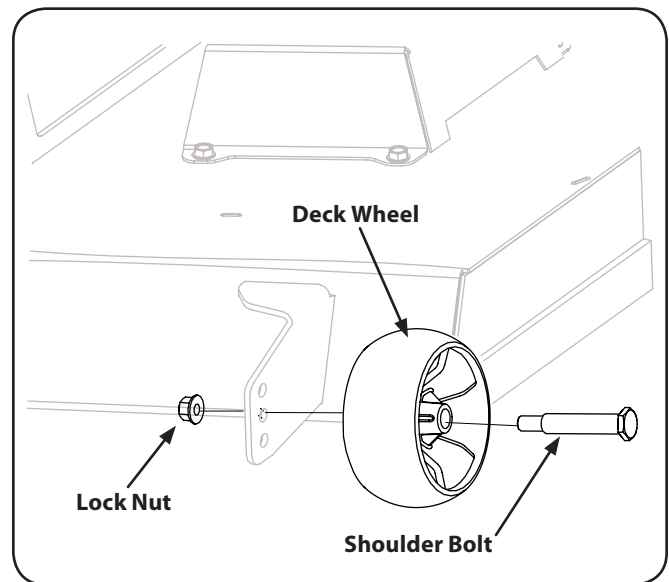

Figure 6-8
- Remove the front and rear deck wheels by removing the lock nuts and shoulder bolts which secure them to the deck. See Figure 6-8.